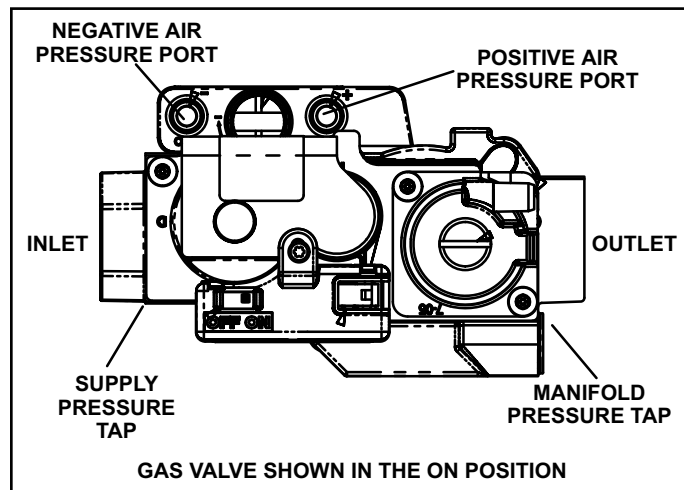

Figure 63. Gas Valve
See Figure 63
6. Move gas valve switch to OFF. See Figure 63.
8. Move gas valve switch to ON. See Figure 63.